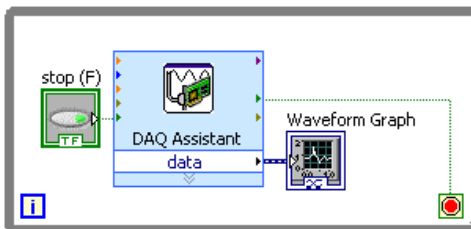

Figure 4-2. Block Diagram of the Read Voltage VI
7. Click the **Yes** button. LabVIEW places a While Loop around the DAQ Assistant Express VI and the graph indicator on the block diagram. A stop button appears wired to the **stop** input of the DAQ Assistant Express VI. The **stopped** output of the Express VI is wired to the conditional terminal of the While Loop. The block diagram should appear similar to Figure 4-2.